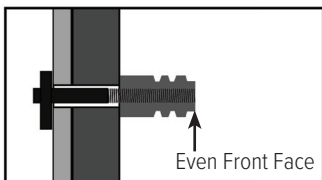

Figure 1.6
1.6 Make sure the front face of the aluminum insert is flush with the T-Bolt as shown in Figure 1.6.